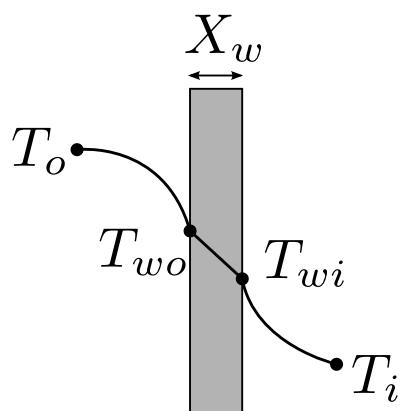

Figure 21: The temperature profile through the pipe wall.
- a) Chilled water flowing through brass tubes of 0.0126 m inside diameter and 0.0018 m thickness cools a stream of air flowing outside of the tube. The film coefficients for the air and water flows are $176 \text{ W m}^{-2} \text{ K}^{-1}$ and $5660 \text{ W m}^{-2} \text{ K}^{-1}$ respectively and thermal conductivity of the brass is $102 \text{ W m}^{-1} \text{ K}^{-1}$ (see Fig. 21).